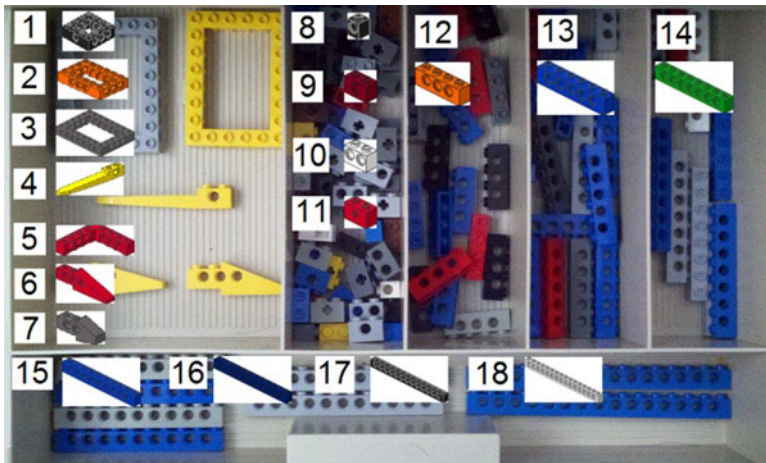

Figure 1-5. A method of storing LEGO Technic Brick in a tackle box drawer
- **Brick:** Any Technic shown in the Technic brick section in Figure 1-5, and some that I didn't show, is here.
When LEGO introduced their "Expert Sets" in the late 1970s, they introduced a new kind of brick. These bricks have holes on the sides for Connector Pegs and Axles (see individual descriptions below). Sometime around 2000, LEGO Technic began to emphasize Beams rather than traditional studded pieces. Most LEGO Technic sets shun these Technic brick pieces now and generally are completely studless. In fact, I can honestly say that I only used a handful of LEGO Technic Bricks in the projects in my previous book. However, if you are a LEGO builder of any type, you could devote an entire drawer in your tackle box or toolbox for these bricks, by length. As you can see, the amount of round holes in the side is usually equal to the amount of studs on top, minus one (with some exceptions). Figure 1-5 shows how I have this arranged in my tackle box, and you can see that I have a large space devoted to Technic Bricks of unusual shapes. You will note that I don't have them separated by color, and not every type of piece has a place by itself. This is because I have very few of some pieces and a lot of another, and it is just easier to group similar pieces together.
■ **Note** The numbers in Figures 1-5 through 1-9, 1-12, 1-22, 1-28, 1-37, and 1-38 correspond to the numbers in the parts list that immediately follows the respective figures. I put the official LEGO ID number in parentheses in the list so you can find it on Pick a Brick or BrickLink, if the part is available for purchase.